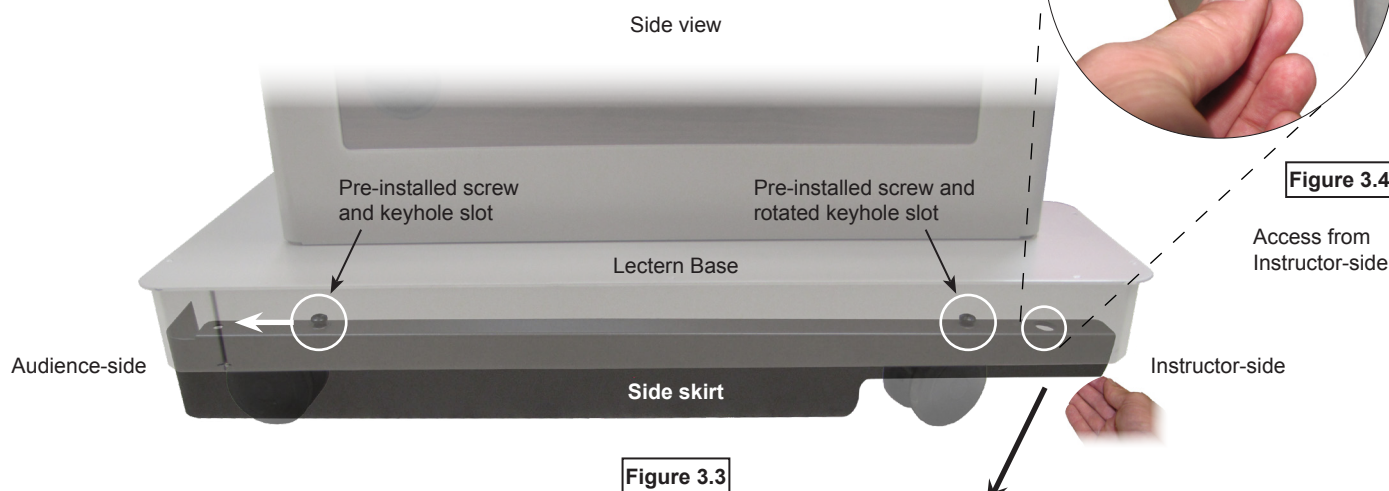
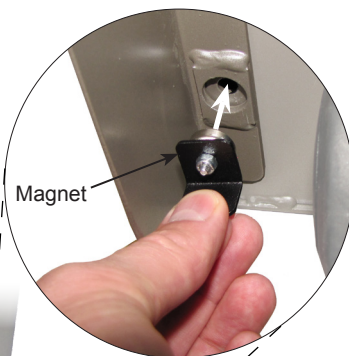

Figure 3.3
Figure 3.4
3 Position each side skirt as shown and hook the (2) pre-installed screws into the (2) keyhole slots and move toward the audience-side to lock in place. The short flat skirt edge should contact the audience-side skirt, and it should be level with the floor. **Figure 3.3.**
4 Pull the instructor-side of the skirt back at an angle to lock the screw into the rotated keyhole slot. The side skirt should now be parallel with the lectern base. **Figure 3.3.** Install the magnet as shown to secure side skirt. **Figure 3.4.** The magnet needs to be fully-seated and contacting the lectern base.